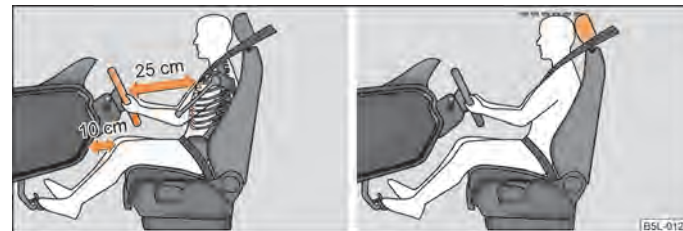

Fig. 115 The correct distance of the driver from the steering wheel and the gear lever/The correct head restraint adjustment for the driver
- Position the steering wheel so that there is a gap of at least 25 cm between the steering wheel and the chest, and the distance between the legs and the gear lever at the height of the knee airbag is at least 10 cm ⇒ fig. 115 - left.
- Adjust the head restraint so that the top edge of the head restraint is at the same level as the upper part of your head ⇒ fig. 115 - right.
- The driver must maintain a distance of at least 25 cm between the steering wheel, and a distance of at least 10 cm between the legs and the gear lever at the height of the knee airbag ⇒ fig. 115 - left. Not maintaining this minimum distance will mean that the airbag system will not be able to properly protect you - hazard!
- Adjust the head restraints so that the top edge of the head restraints is at the same level as the upper part of your head ⇒ fig. 115 - on the right.